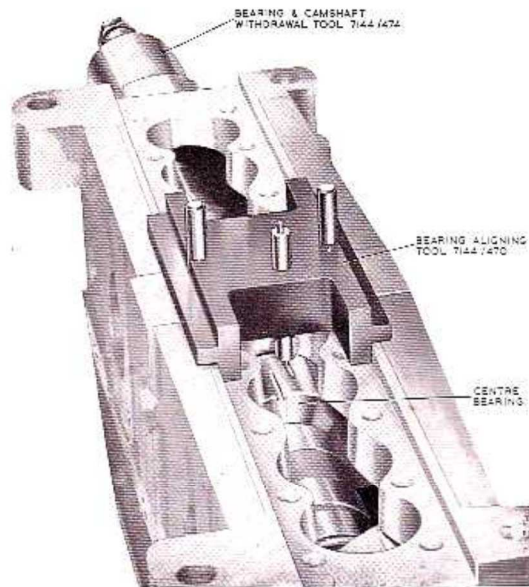

FIG. 24. FITTING ALUMINIUM TIN ALLOY TYPE CENTRE BEARING
7. Locate bearing aligning tool 7144 470 by placing the two pins in the bolt holes in the base of the pump and the single pin in one of the bearing alignment grooves as shown in Fig. 24. See Note after item 13.